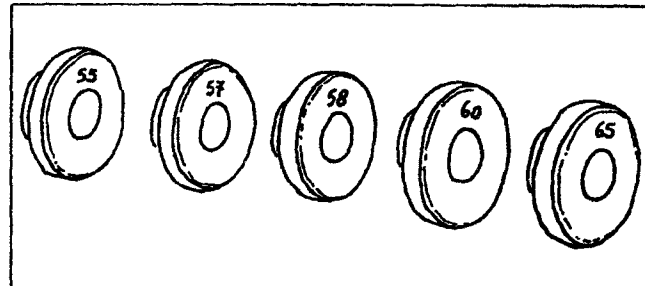

Fig.9
**#4017551 Center hubs** (Fig.9).